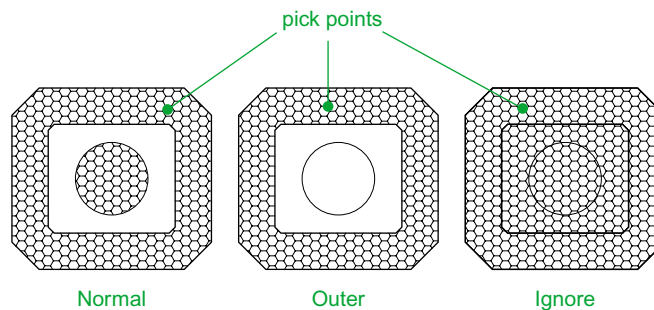

Fig. 8.17 Fifth example – advanced hatching
Fifth example – advanced hatching (Fig. 8.17)
1. Construct a drawing which includes three outlines as shown in the left-hand drawing of Fig. 8.17 and copy it twice to produce three identical drawings.